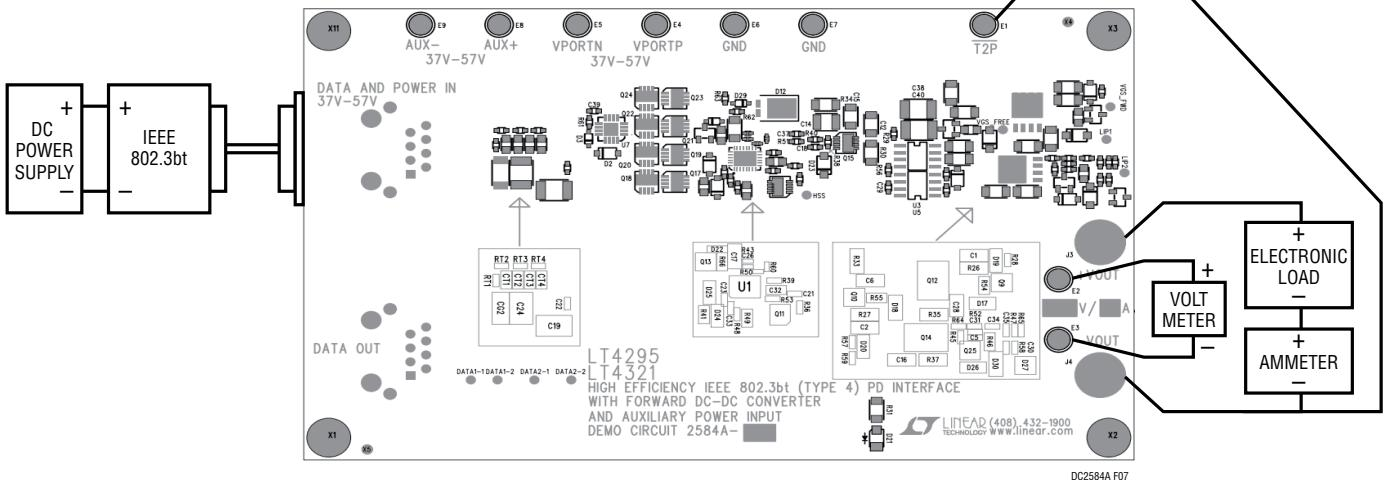

Figure 7. Setup Diagram for PoE Input
2. Place and connect test equipment (voltmeter, ammeter, oscilloscope, and electronic load) as shown in Figure 7.
7. Verify T2P response with an oscilloscope as shown in Figure 7. The T2P response to the type of PSE connected to the DC2584A-A is provided in Table 1.